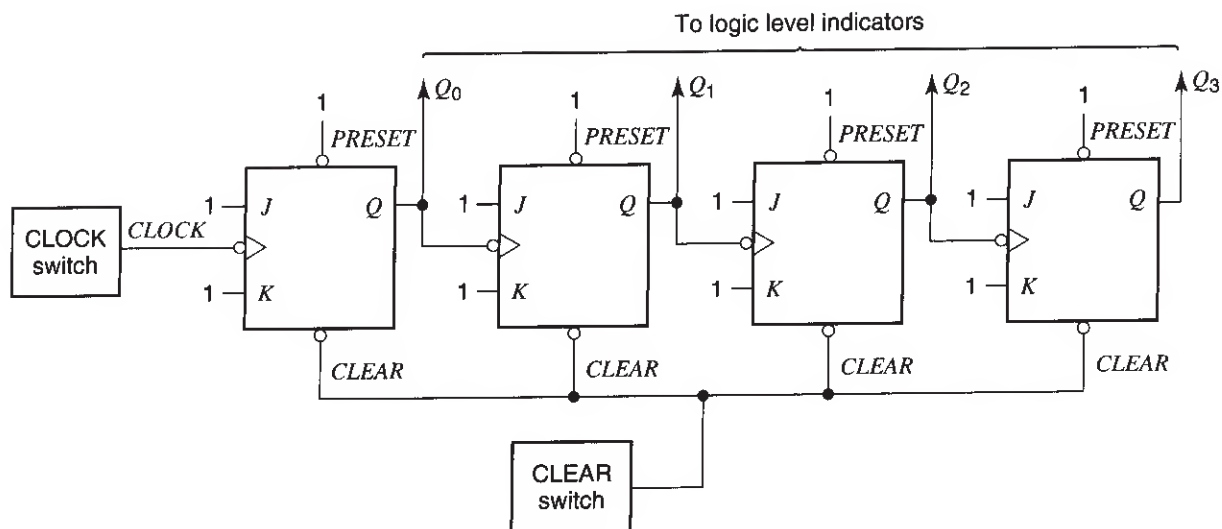
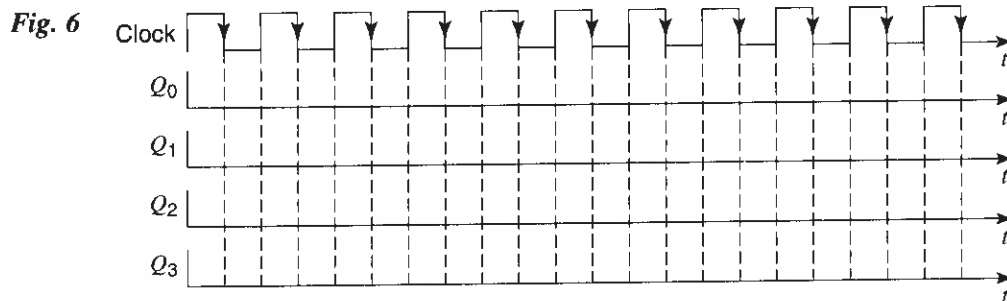

Fig. 5
Fig. 6
Logic level indicators should be available on a digital breadboard. Otherwise, you can make these indicators as shown in Experiment 15, Fig. 5.
5. Consider the ripple counter shown in Fig. 5, *but do not build it yet*. Assume all outputs are cleared. Assume that the clock button is hit repeatedly, resulting in the clock waveform shown at the top of Fig. 6. Complete the waveforms for Q_0 , Q_1 , Q_2 and Q_3 . (*Hint: According to what you found above, each flip-flop output will toggle each time the clock input of that flip-flop goes from high to low.*)¹
6. Now build the circuit of Fig. 5. Two JK flip-flops can be found in one 74LS112 chip, so you will need two such chips. The pin assignment has been given in Fig. 3. You can mark the pin numbers directly on Fig. 5 to make connecting easier. *Be sure you connect*
the ground and supply pins. The PRESET inputs should be permanently connected to a logic 1, as shown in Fig. 5.
8. Clear the outputs. Consider the combined outputs $Q_3 Q_2 Q_1 Q_0$ as a binary number, with Q_3 the most significant bit and Q_0 the least significant bit.² Verify that this number represents the number of times the clock button is hit (or, more precisely, the number of times the clock signal goes from high to low) after the outputs have been cleared. For example, if you hit the clock five times, the binary number $Q_3 Q_2 Q_1 Q_0$ should be 0101. Explain why this happens, with the help of your diagram in Fig. 6.
11. Lower the frequency of the signal to 1 Hz. *Disconnect the clock switch from the input of the ripple counter of Fig. 5*, and connect instead your function generator output, as shown in Fig. 7. The LED indicator at the output of the function generator should be lighting up one time per second.
14. Use the second channel of the scope and another $\times 10$ probe to observe the waveform at Q_0 . Using the vertical position control of the scope, place this waveform below the input waveform. Verify that the two waveforms are related as you have drawn in Fig. 6.
15. Move the second probe to Q_1 , and again observe the relation to the input waveform. Verify that it is as you have drawn in Fig. 6. Repeat for the waveforms at Q_2 and Q_3 . At each of these outputs, the circuit is said to accomplish "frequency division." Why? What is the division factor for each output?